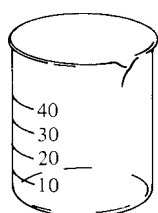

Figure 1.7
- Take a 50-mL graduated beaker (Figure 1.7), and fill with water to the 40-mL mark. Transfer the water, completely and without spilling, to a dry 100-mL graduated cylinder. Record the volume on the Report Sheet (2) to the nearest 0.1 mL; convert to L.
- What is the error in mL and in percent for obtaining 50.0 mL for the Erlenmeyer flask and 40.0 mL for the beaker (3)? Calculate the % error in the following way: [(volume by graduated cylinder) minus (volume using the mark of the Erlenmeyer or the beaker) divided by (volume by graduated cylinder)] times 100.
- Which piece of glassware will give you a more accurate measure of liquid: the graduated cylinder, the Erlenmeyer flask, or the beaker (4)?